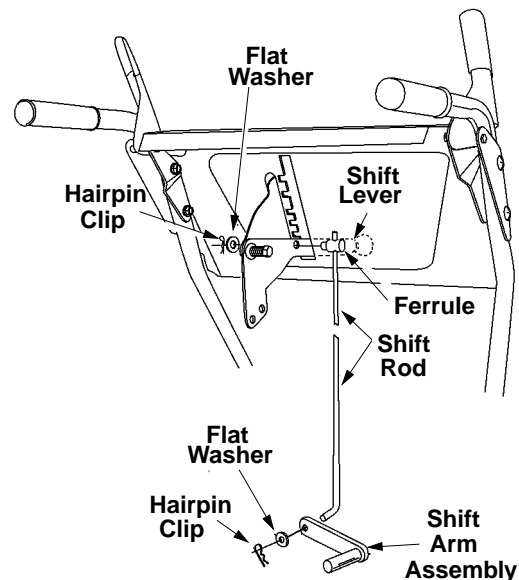

Figure 12
**Model 614, 644, 664:** Rotate the shift arm assembly clockwise as far as it will go. Insert the shift rod through the shift arm assembly. When installed, the shift arm assembly should point left. Secure with flat washer and hairpin clip. See Figure 12.
**Model 614, 644, 664:** Thread the ferrule onto the shift rod, up or down the shift rod and align with the far hole on the narrow side of the shift lever assembly behind the handle panel. See Figure 12.